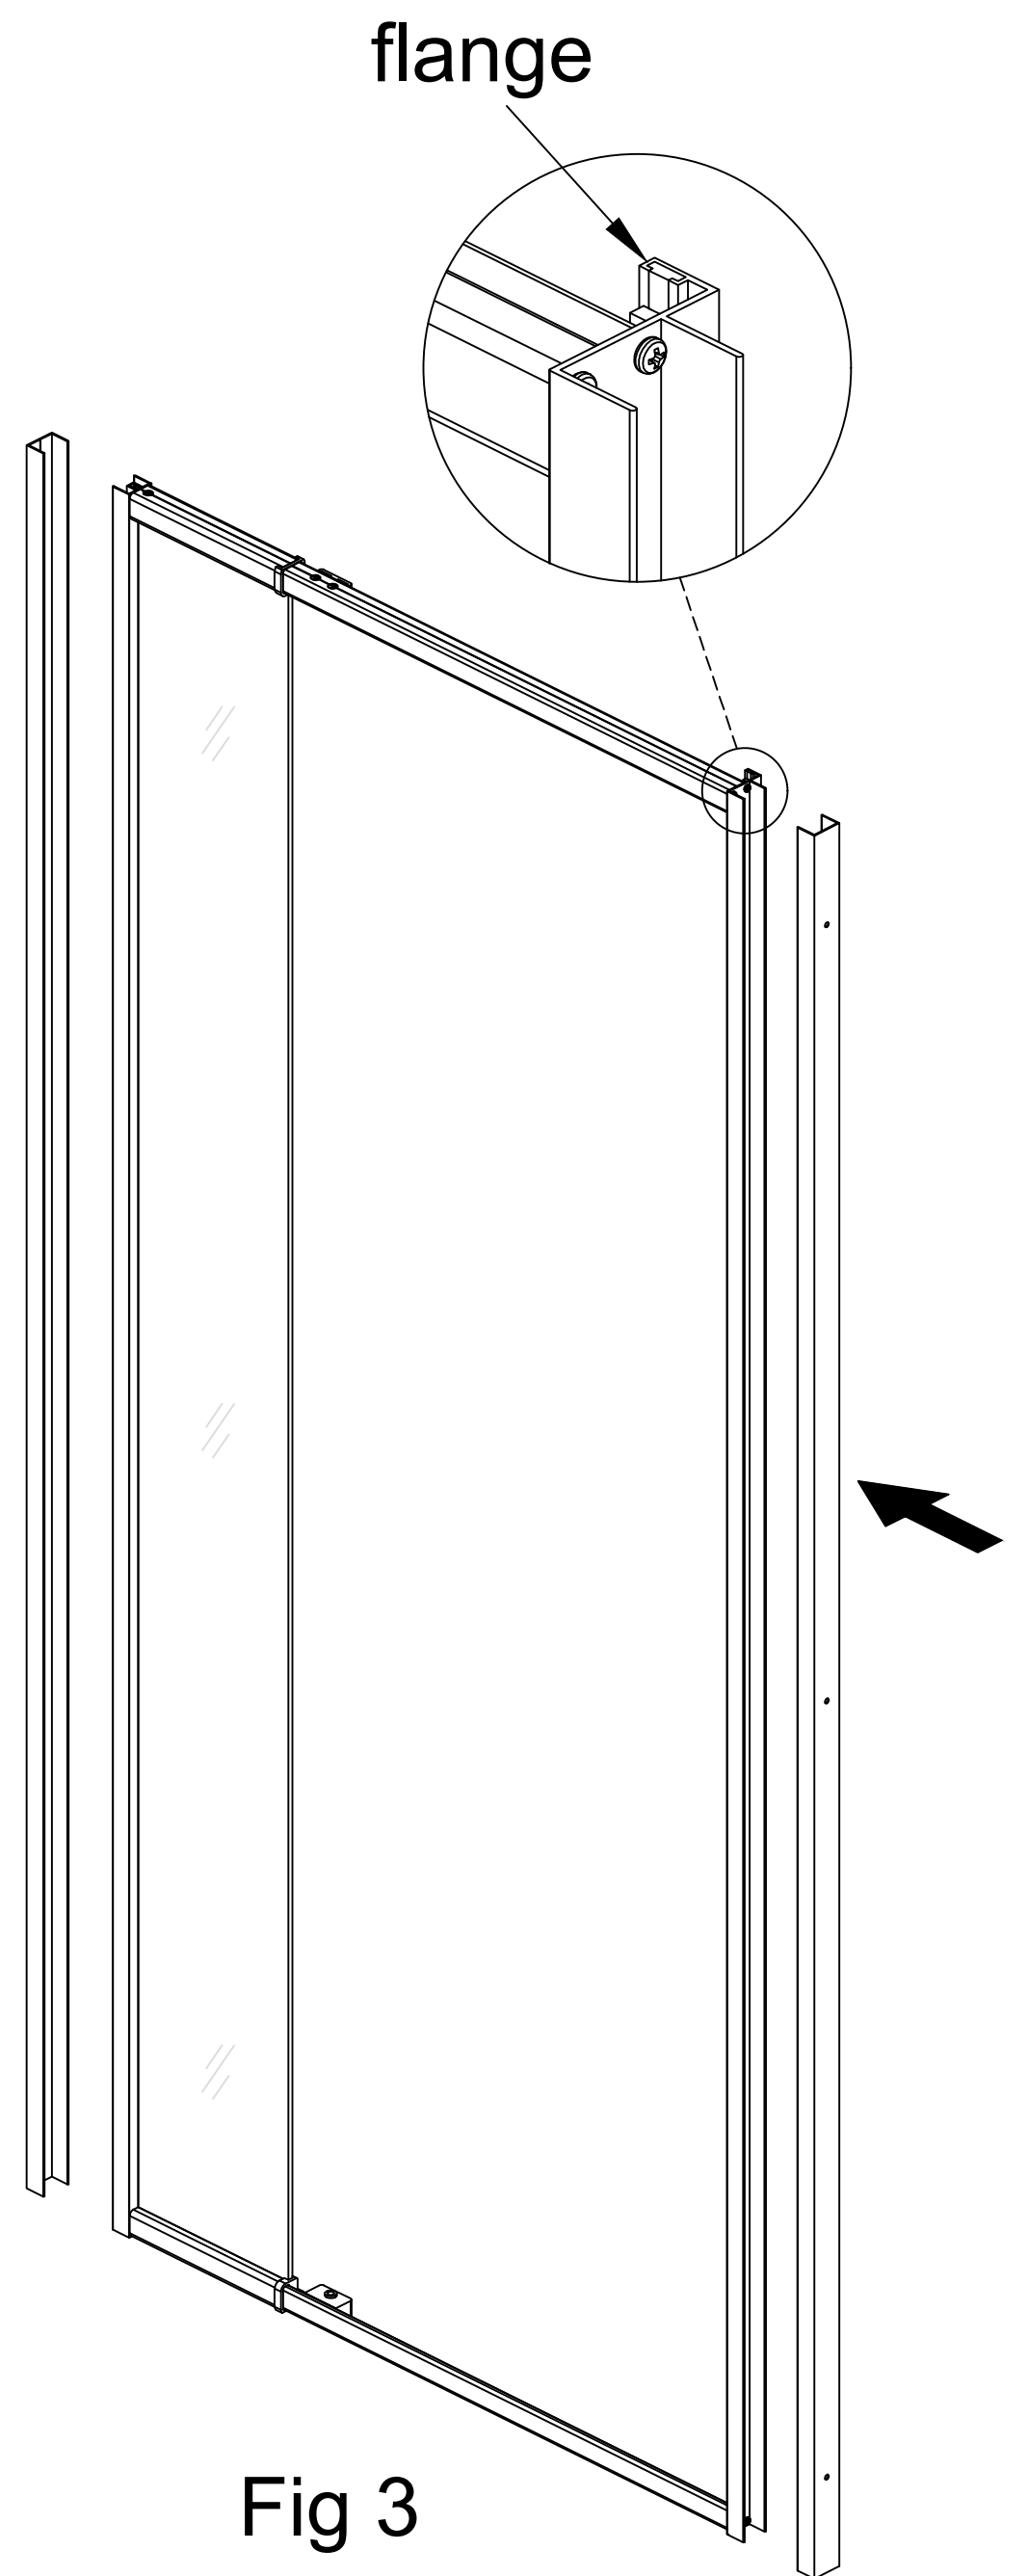

Fig 3
Slide both of the the **Wall Jamb (D)** over the frame assembly. Be sure that the flange on the **Magnetic Strike Profile (G)** faces towards the shower. (Fig 3)